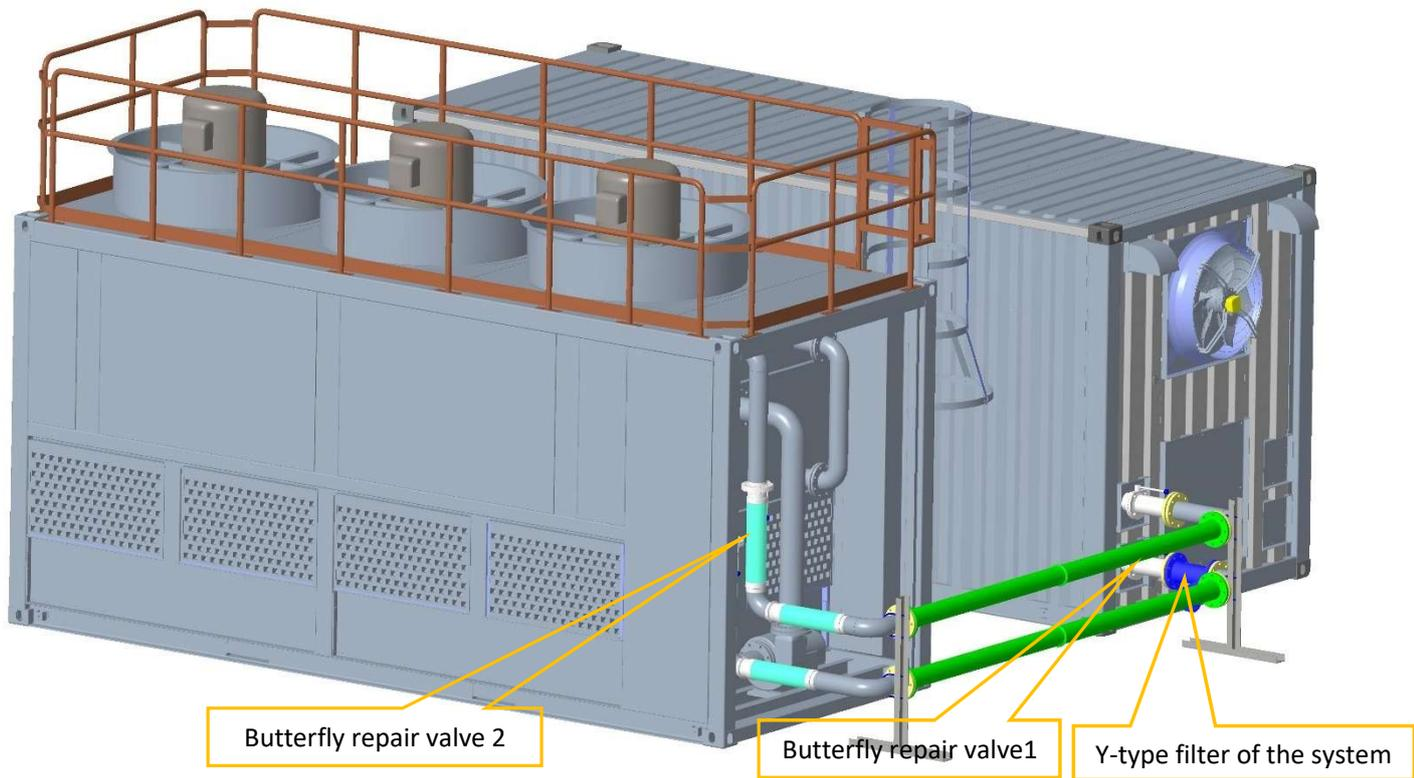

Figure 8-3-1 Positions of the butterfly repair valve and the Y-type filter in the pipelines
- c) Locate the position of the Y-type filters in Figures 8-3-1 and 8-3-2.